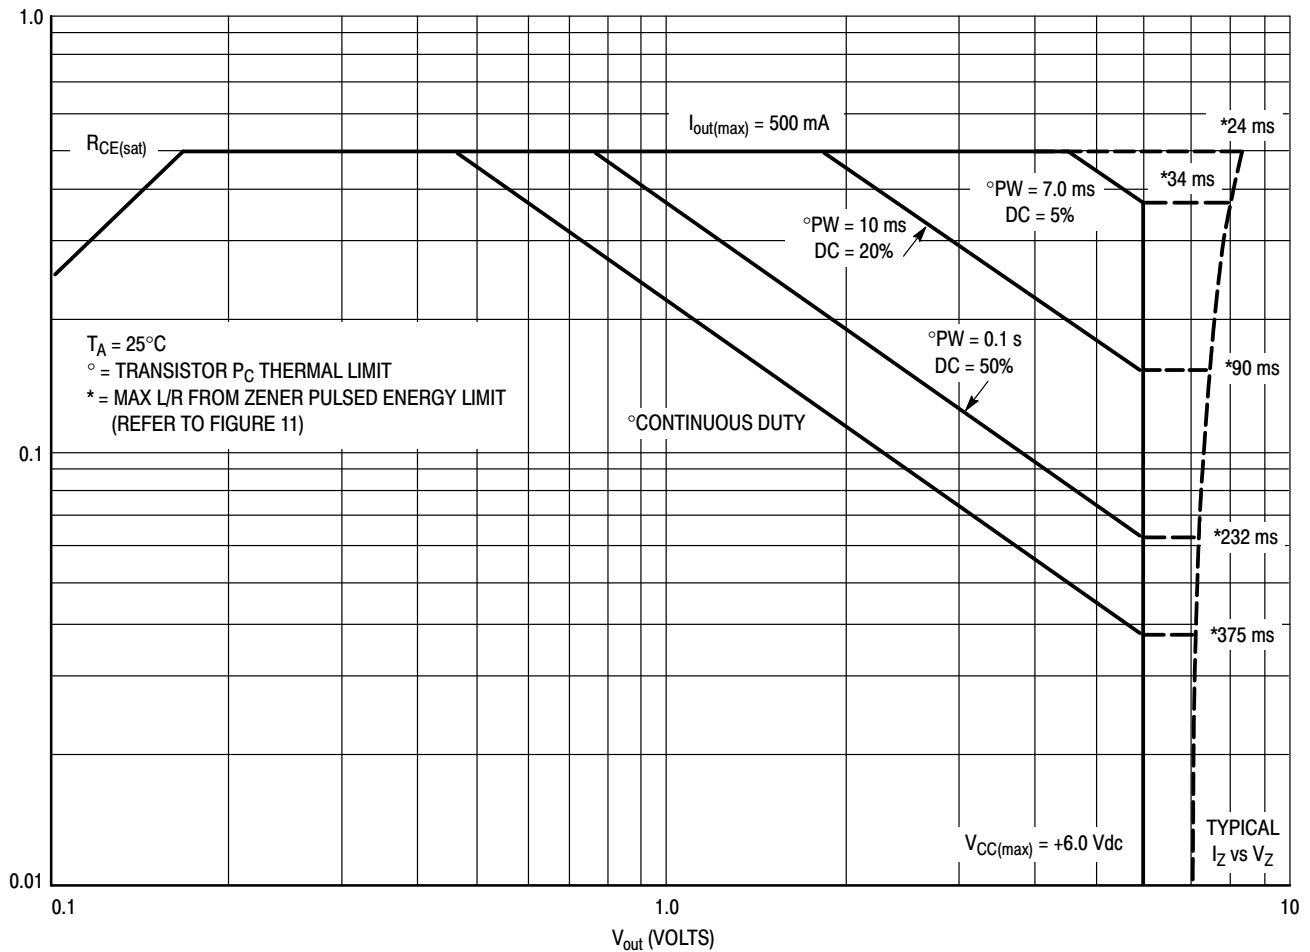
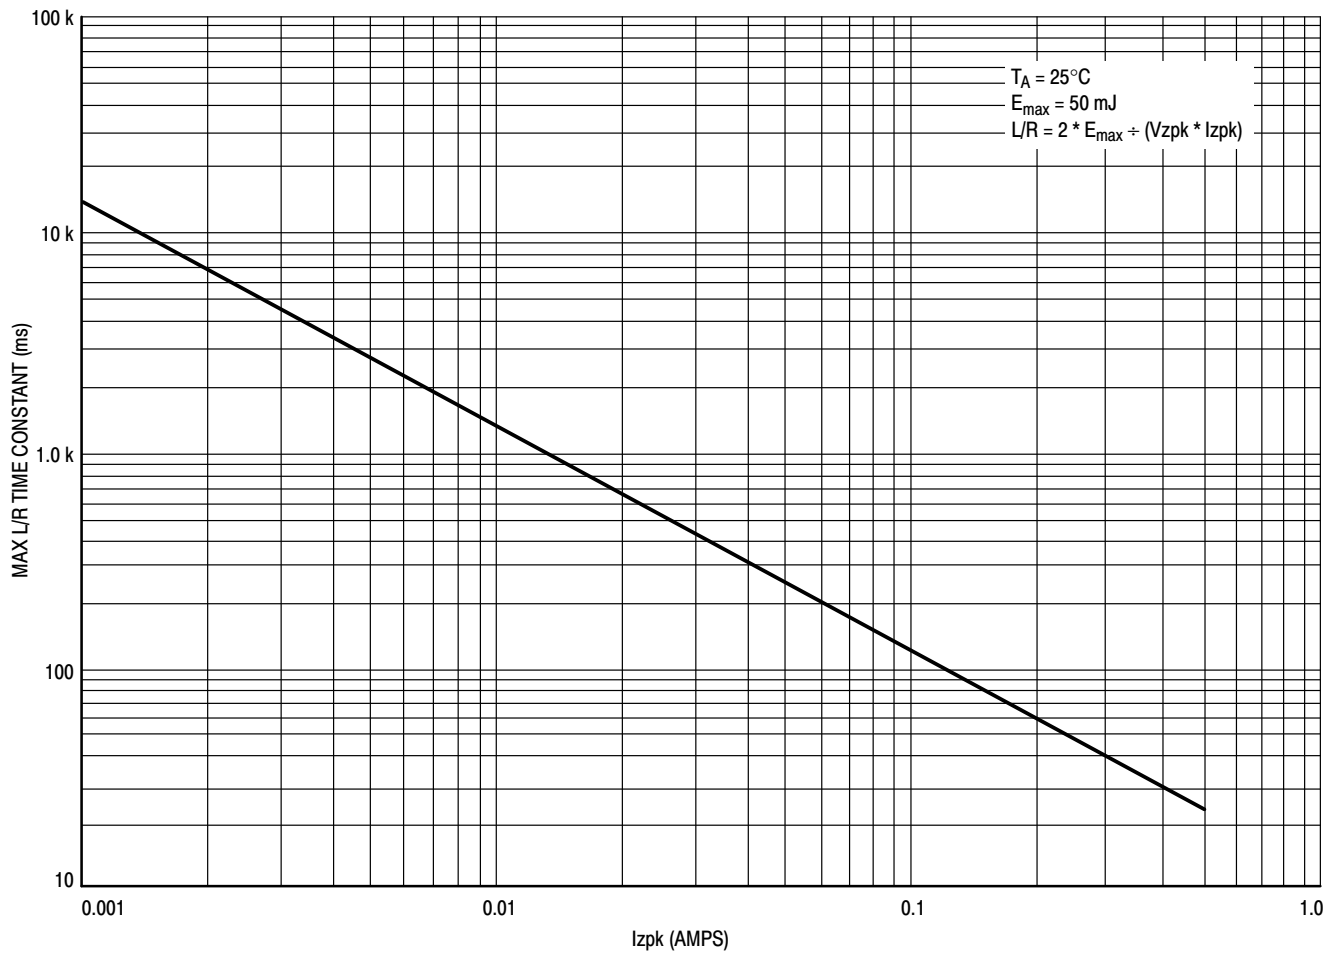

Figure 10. Safe Operating Area for MDC3105LT1
Figure 11. Zener Repetitive Pulse Energy Limit on L/R Time Constant for MDC3105LT1
Figure 10 is the Safe Operating Area (SOA) for the MDC3105. Device instantaneous operation should never be pushed beyond these limits. It shows the SOA for the Transistor "ON" condition as well as the SOA for the Zener during the turn-off transient. The max current is limited by the I_{zpk} capability of the Zener as well as the transistor in addition to the max input current through the resistor. It should not be exceeded at any temperature. The BJT power dissipation limits are shown for various pulse widths and duty cycles at an ambient temperature of $25^{\circ}C$. The voltage limit is the max V_{CC} that can be applied to the device. When the input to the device is switched off, the BJT "ON" current is instantaneously dumped into the Zener diode where it begins its exponential decay. The Zener clamp voltage is a function of that BJT current level as can be seen by the bowing of the V_Z versus I_Z curve at the higher currents. In addition to the Zener's current limit impacting this device's 500 mA max rating, the clamping diode also has a peak energy limit as well. This energy limit was measured using a rectangular pulse and then translated to an exponential equivalent using the 2:1 relationship between the L/R time constant of an exponential pulse and the pulse width of a rectangular pulse having equal energy content. These L/R time constant limits in ms appear along the V_Z versus I_Z curve for the various values of I_Z at which the Pd lines intersect the V_{CC} limit. The L/R time constant for a given load should not exceed these limits at their respective currents. Precise L/R limits on Zener energy at intermediate current levels can be obtained from Figure 11.
3. Use Figures 10 and 11 with the SOA notes above to insure that instantaneous operation does not push the device beyond the limits of the SOA plot.